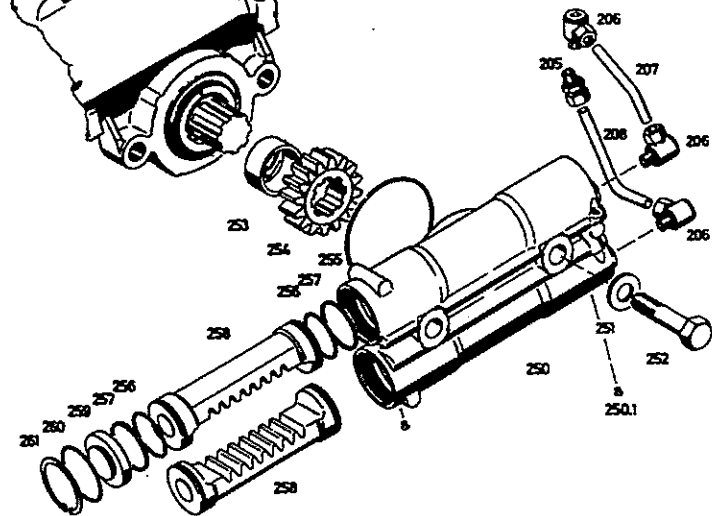

Fig.8
Remove piping (225 and 226) and pipe unions (205 and 206) in the case of versions with add-on cylinder (250) *see Fig.8*.
Unscrew hexagon screws (252) with washers (251) and remove add-on cylinder (250) (*Fig.8*).